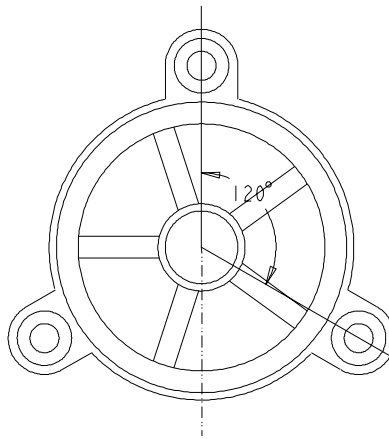

Figure 11-45 Sketch for the total align section
- Generate the sectioned right view by defining a plane on the top view of the model, refer to Figures 11-45 and 11-46.
12. Choose the **Sketch > Line > Line** from the menu bar and sketch the line, as shown in Figure 11-45. These lines define the section plane.